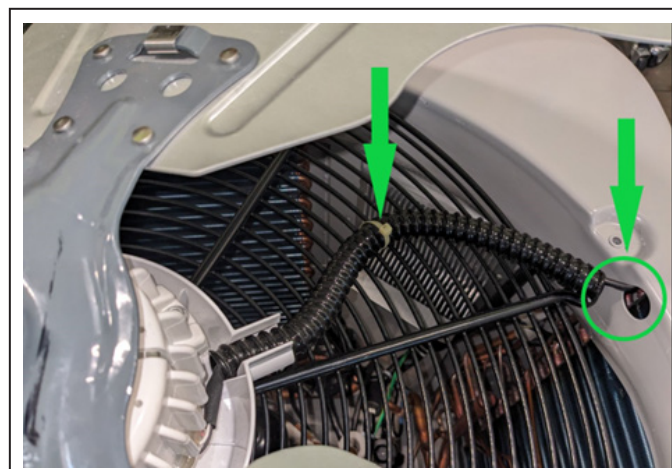

Fig.3
4. Carefully flip over the now unsecured fan assembly to access the motor wiring. It is hard-wired into the motor and runs through a hole in the chassis to plug into the PCB. Remove any zip ties you find that secure the wiring to the grille (see Fig.3);